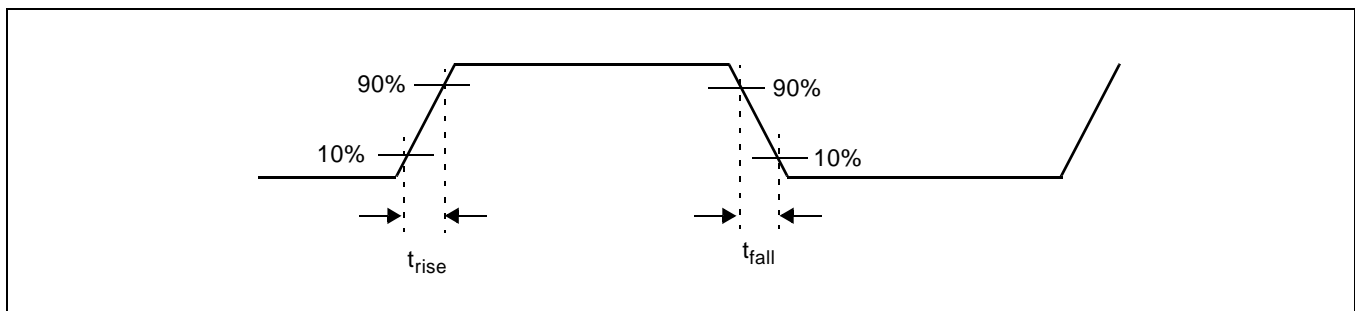

**Figure 22 - Output Duty Cycle**
**AC Electrical Characteristics - Output Clock Duty Cycle1 (See Figure 22).**